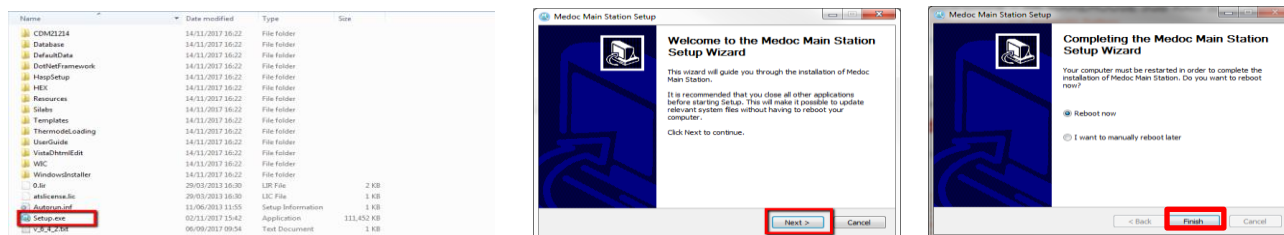

Figure 5: Software installation stages
2. Click "Next" all the way through (see figure 5)